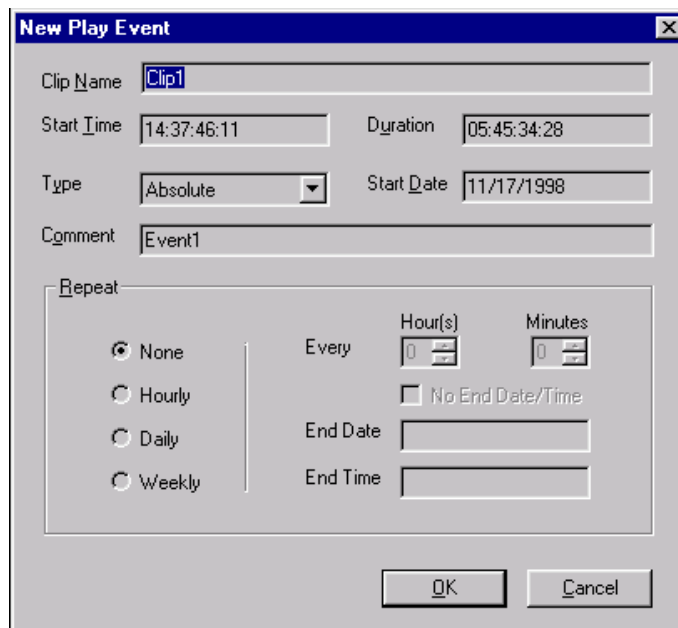

Figure 138. Creating a play event
2. Choose **File | New Event | Play** to open the New Play Event dialog box as shown in Figure 138.